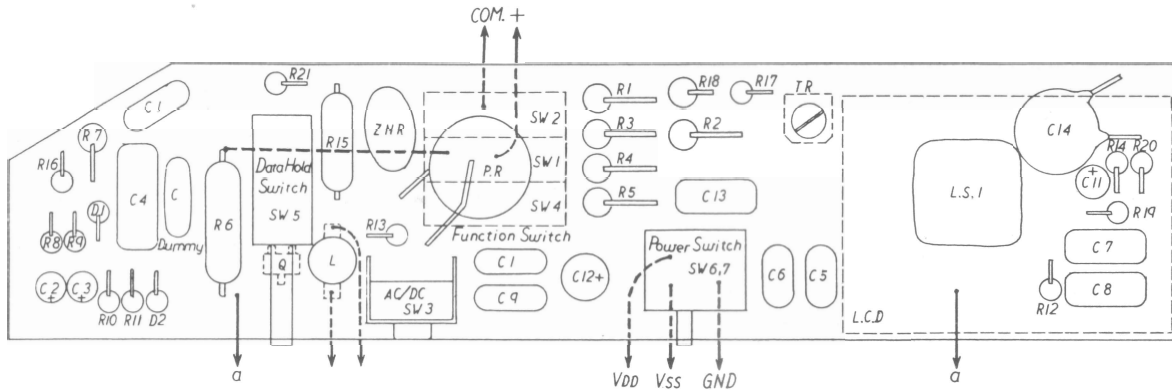

Figure 6. Components Locator for Model DM73
6. With the DC calibrator at 1.7 volts DC, the meter should read between 1.699 and 1.701. Using a small flat-tipped screwdriver, adjust resistor TR ($3.3\text{K}\Omega$) as shown in Figure 6 until the meter reads within the proper range.